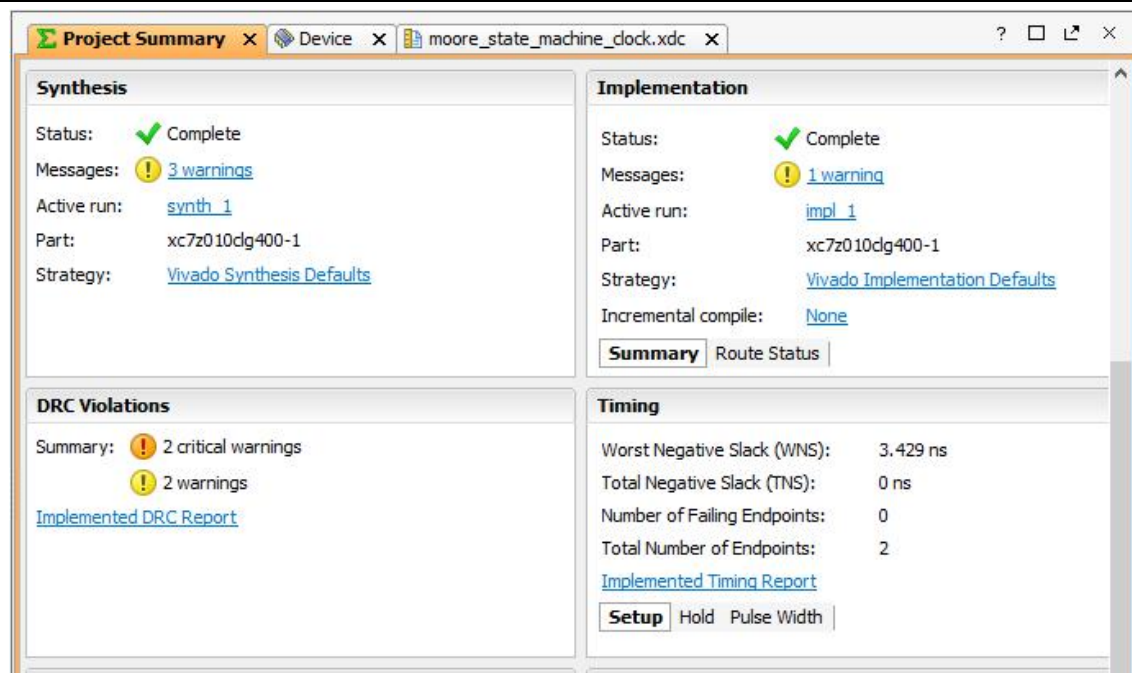
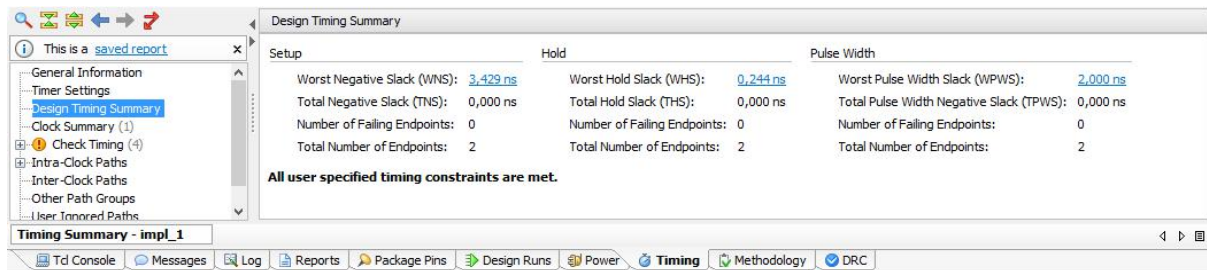

Fig. 18. Check timing report
Fig. 19. Timing report detail.
11. Check timing report. In the **Timing** sub-window click **Implemented Timing Report** as in Fig. 18. The detail timing report will be showed as in Fig. 19.